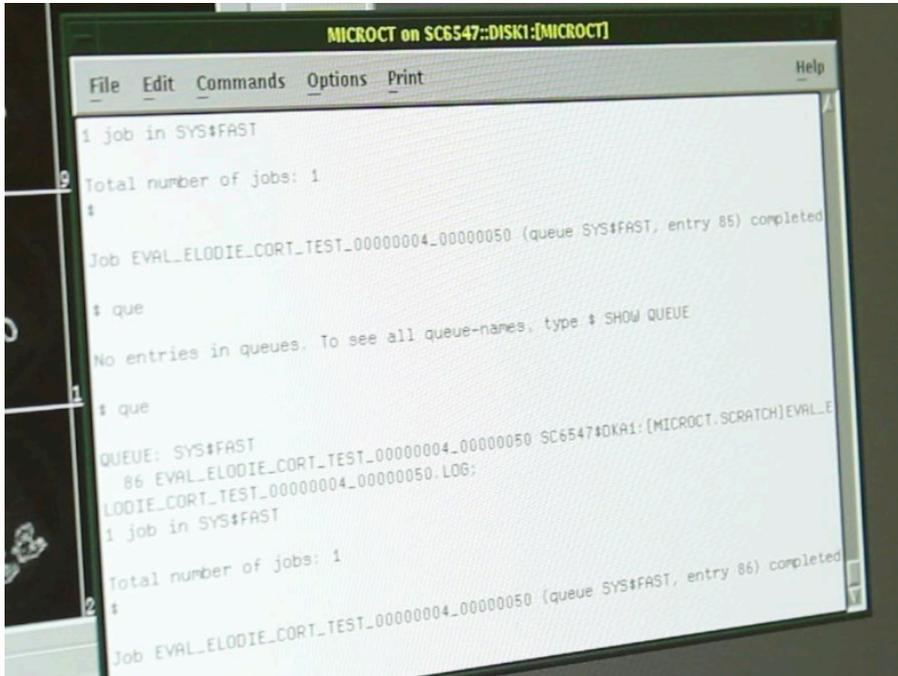

Figure 3.
17. You can check the status of the analysis by typing 'que' in the DECTerm window which should already be open in the background, see Figure 3.
15. You can check the status of the analysis by typing 'que' in the DECTerm window which should already be open in the background, see Figure 3. In this window, you would also find a completion message once the analysis of that specific bone in the measurement has finished.